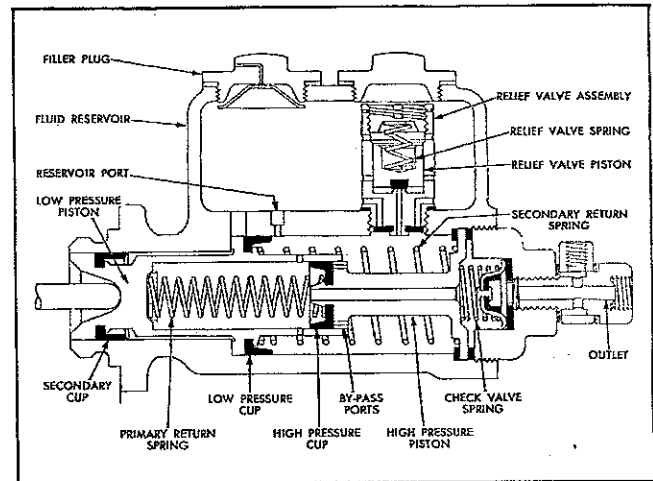

Fig. 24. Adjust Master Cylinder Relief Valve
1. Remove front plug on master cylinder to gain access to the adjustment screw in the top of the relief valve assembly. See Figure 24.